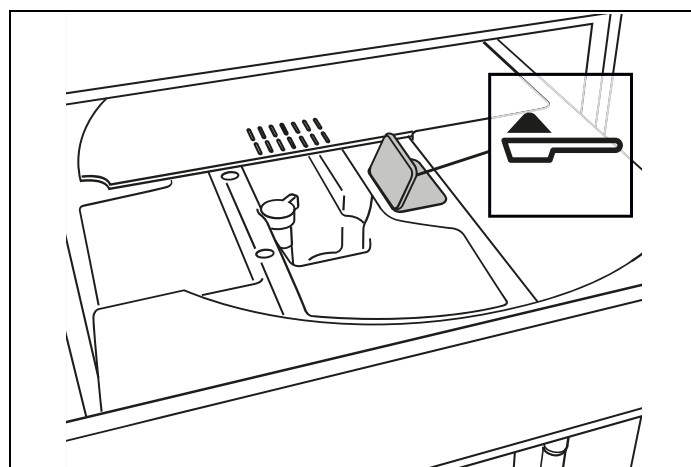

Fig. 26
- 3) Make sure the funnel **(A21)** is not blocked, then add one level measure of pre-ground coffee (Fig. 26).